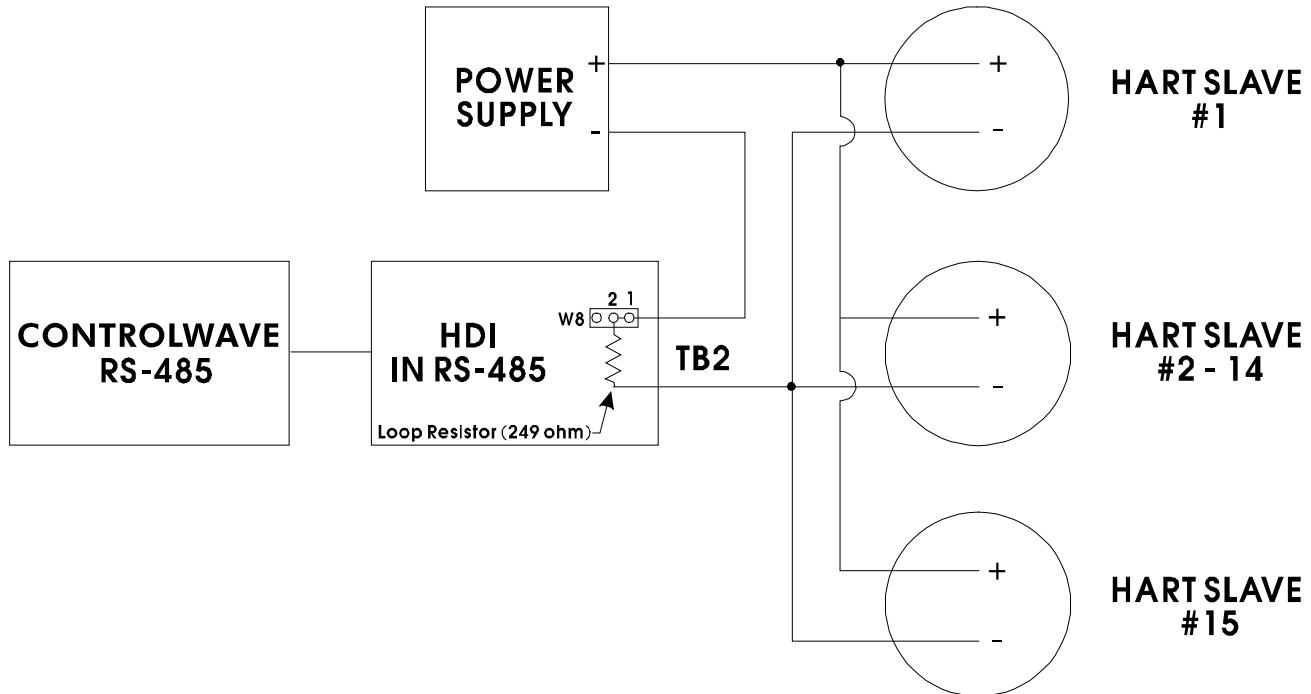
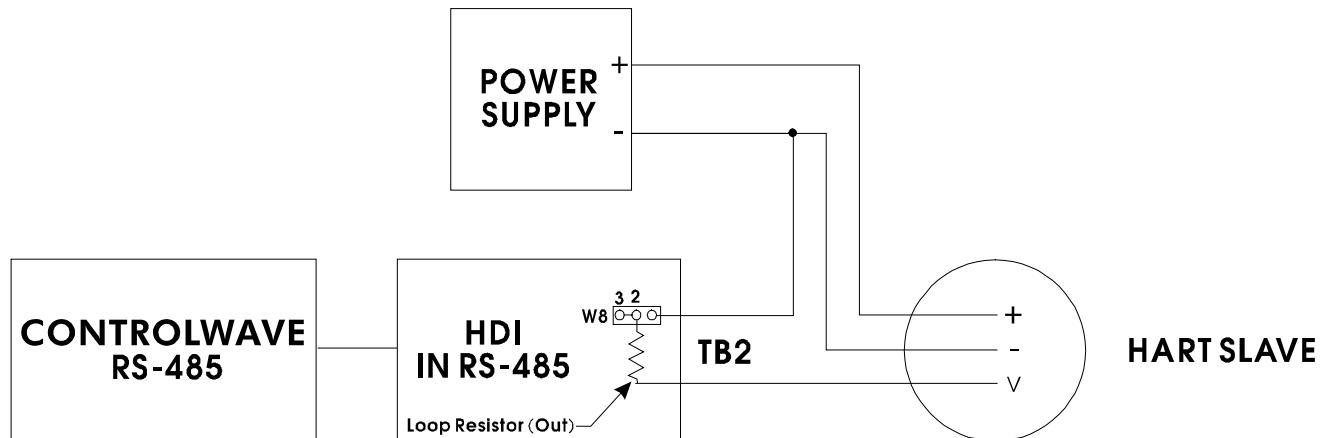

Figure 6. HART Remote Transmitters with 4-20 mA Current Source Connected to ControlWave Using an HDI in RS-485 Mode
Figure 7. HART Remote Transmitters with +12 to +45 VDC Voltage Source Connected to ControlWave Using an HDI in RS-485 Mode
2. Connect the HDI to the HART remote devices either as shown in *Figure 6* (for-to-20mA current sourced transmitters) or to a single HART remote device (for a +12 to +45 VDC voltage sourced transmitter) as shown in *Figure 7*.
2. Connect each HDI to the HART remote devices as shown in *Figure 6* (for 4-20mA current sourced transmitters) or to a single HART slave device as shown in *Figure 7* (for a +12 to +45 VDC voltage output transmitter).